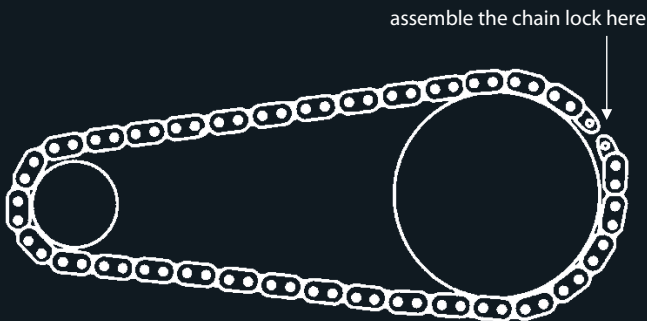

Fig. 3
- Fit the chain on the chain wheel and pinion and loosely connect the ends with the prepared part of the chain lock. To do this, slide the bolts through the open sleeves on the two chain ends. In doing this, it can be helpful to fit the open ends of the chain on the chain wheel for the purpose of fixing the chain (Fig.3).